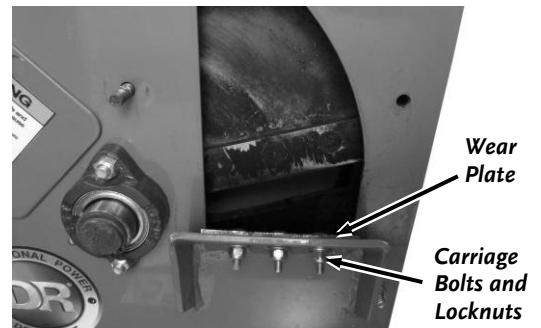
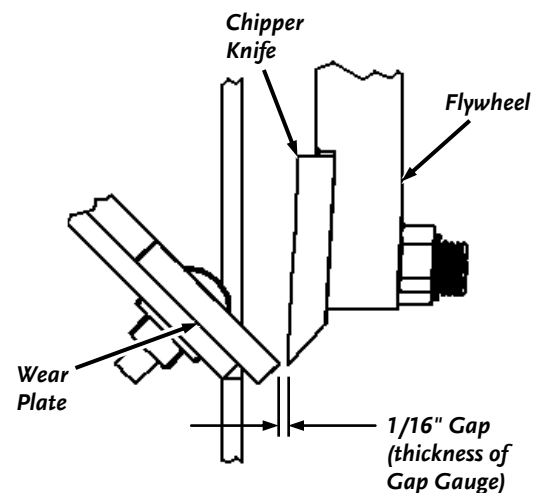

Figure 37
Figure 38
4. To adjust the Wear Plate Gap, loosen the three Locknuts on the Carriage Bolts just enough so the Wear Plate will move but still have a slight resistance (**Figure 37**). Now you can slide the Wear Plate up or down (in or out) to achieve the correct gap setting (**Figure 38**).